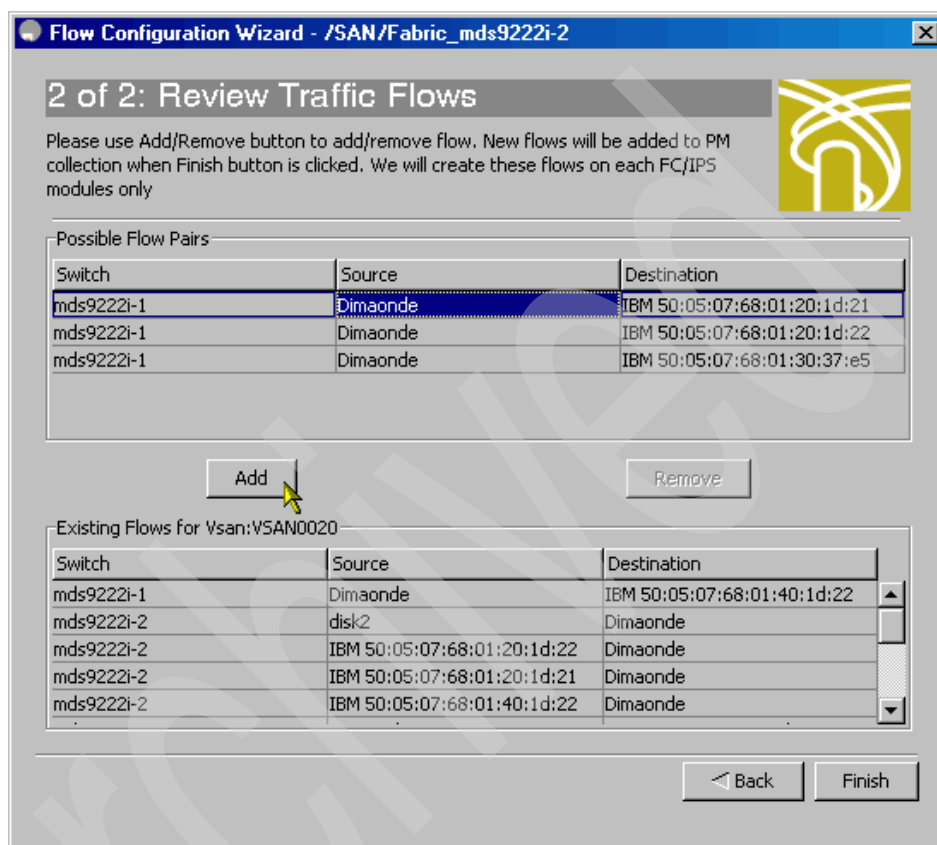

Figure 8-38 Add traffic pairs to flows for a specified VSAN
3. The Review Traffic Flows window displays all VSAN flow pairs in the existing flows for VSANs area. Select traffic pairs to create flows and select **Add**, as shown in Figure 8-38.